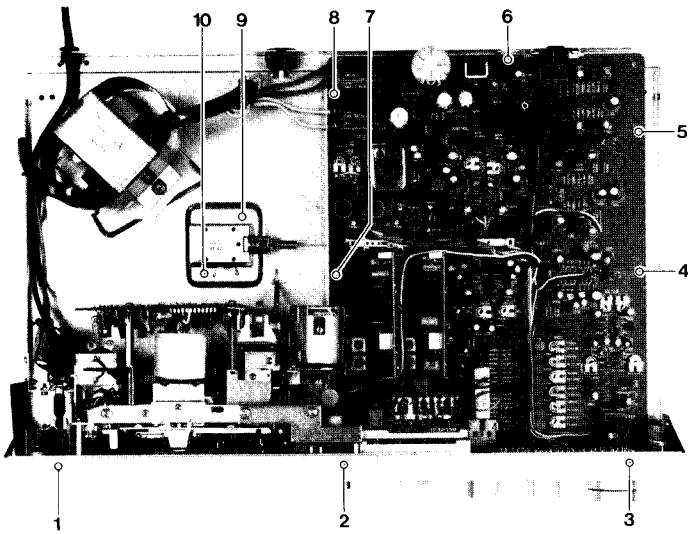

Fig. 10
- b) Remove screws 1-3, Fig. 10 and 2, 4, 7, Fig. 7 and take away the front panel.
Remove screws 9, 10 Fig. 10. Separate the lifting magnet from the switch pole and remove the magnet.
- Die Schrauben 4-8, Fig. 10 entfernen und Hauptplatte entnehmen.
- Remove screws 4-8, Fig. 10 and take away main board.